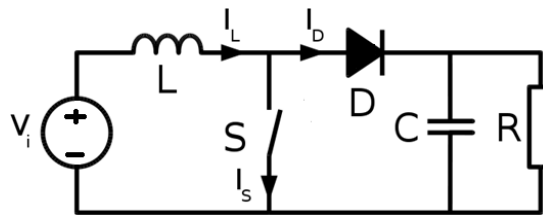

Figure 9.1: Boost Converter
Boost converter works on the principle of step up operation. Boost converter provides greater mean voltage at output from the given mean voltage at input. Figure 9.1 shows circuit diagram of boost converter.
Boost converter follows step up principle. It's inherited property of an inductor to resist the change in current ( $di/dt$ ), which pillars boost principle. Circuit of figure 9.1 works in two stages. When switch (S) is closed,  $I_L$  flows and inductor charges. Mean while, current supplied at load with the help of capacitor (C). When switch S is opened, inductor changes its polarity and tries to resist the change in current which in terms produces voltage at output which is greater than the voltage supplied at input. It should be noted that transistor will be used as a switch. Figure 9.2 shows typical waveforms of boost converter.